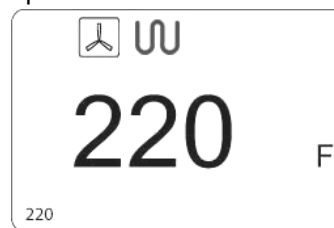

Fig. 5
- Press once on the **"Convection"** button on the control panel and the digital display will show the convection and grill symbols, and the temperature at **220°F**. (Fig. 5) Continue to press the **"Convection"** button until you have reached the desired convection cooking temperature.